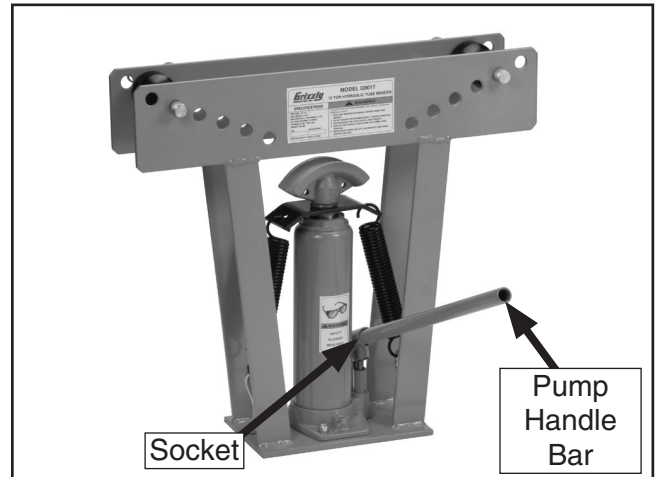
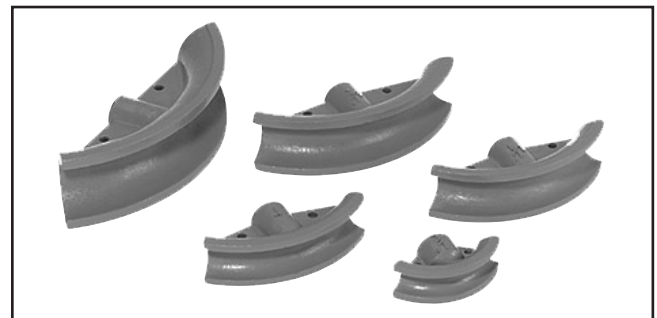

Figure 1. Model G9017.
Figure 2. Model G9017 bending dies.
The Model G9017/G9018 (**Figure 1**) is designed for bending thick walled pipes (schedule 40 and 80) and has six different bending dies ranging in size from 1/2" to 2" for the G9017 (see **Figure 2**) and from 1/2" to 3" for the G9018. The Model G9017/G9018 is not designed for bending thin walled pipes or exhaust pipe.
Inventory (Figures 1 & 2)
1. Insert the pump handle bar into the socket on the tube bender shown in **Figure 1**.